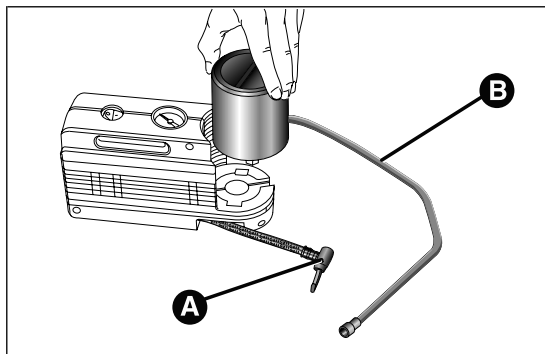

fig. 121
- ☐ disconnect connection A fig. 121;